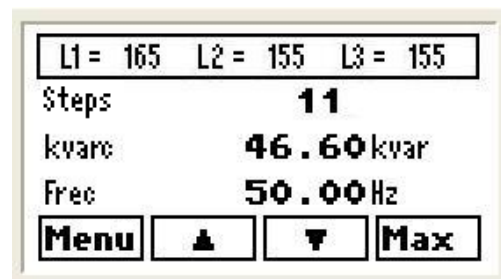
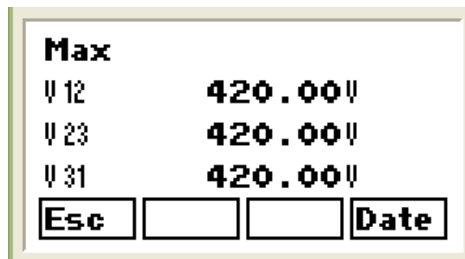
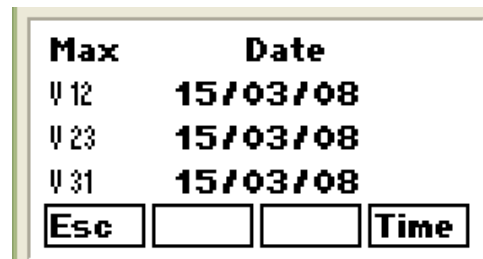

Fig.71.- Status III
Fig. 88.- Maximum value screen
Fig.89.- Maximum value screen: Date and time
- Some parameters record the maximum or minimum values and indicate the date and time when they occur. The parameter screens show the **Max** or **Min** option (see Figs. 71 to 85). Select **Max** or **Min** to display the values recorded on the screen (Fig. 88) with the possibility of displaying the date and time when they occur (see Fig. 89). To exit these submenus, press **Esc**.